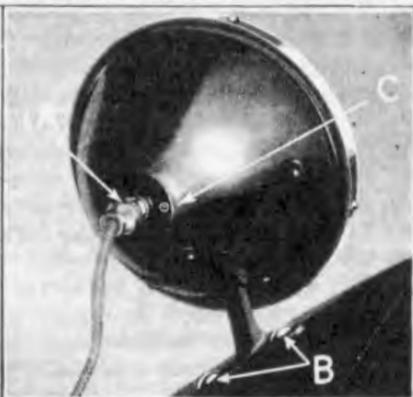

Fig. 533
- 1135 Disconnect headlamp plug (see "A" Fig. 533) at headlamp by pressing in on plug and turning it counter clockwise.
- 1136 Run off the nuts on the ends of the two headlamp bracket bolts (see "B" Fig. 533). Headlamp can then be withdrawn from fender apron.
- (b) Focus, by means of focusing screw (see "C" Fig. 533) at back of lamps, first one lamp and then the other, adjusting the bulb filament at the focal center of the reflector to obtain an elongated elliptical spot of light on the wall, with its long axis horizontal (see Figs. 124 and 125).